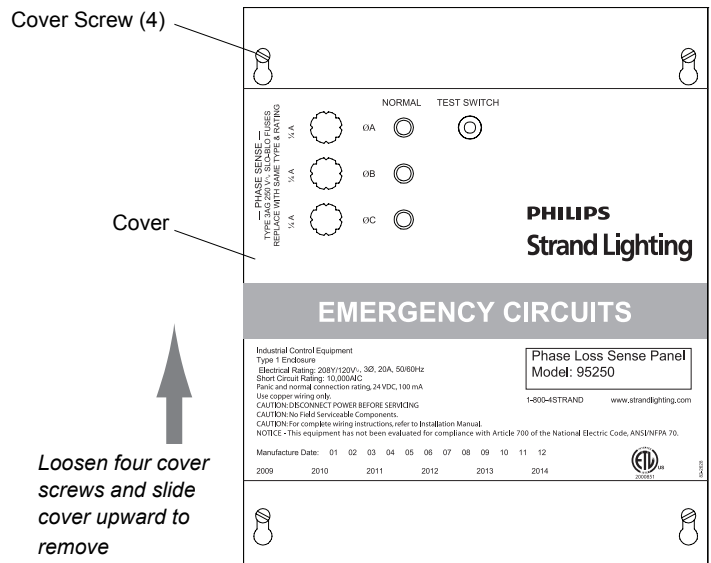

Figure 2: Removing Front Cover
- Step 2. As shown in **Figure 2**, loosen, but do not remove, screws securing cover.